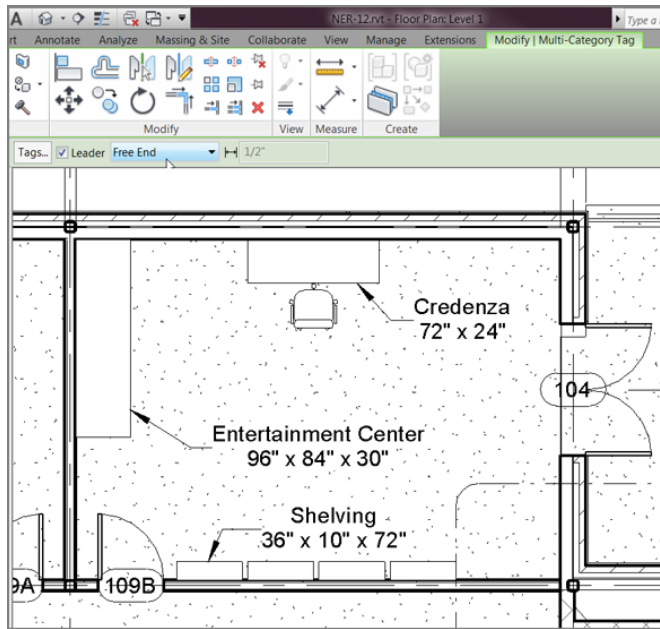

FIGURE 11.86: Adding the multi-category tag to the entertainment unit. Make sure you adjust the tag to show the information unobscured.
14. On the Options bar, select the Leader option, as shown in Figure 11.86.
15. Again, on the Options bar, select Free End (see Figure 11.86).
16. Hover your mouse over the furniture items shown in the room in Figure 11.86. The tag reports the information for any item over which you hover. Pick the entertainment unit to the left of the room, and then pick two points to the right of the unit.
21. Using the grips on the tag, move it out of the way, and adjust the leader so it looks like the one in Figure 11.86.
22. Add another tag to the credenza located on the north wall. Adjust this tag as well (see Figure 11.86).
23. Add one more tag to the shelving on the south wall of the room, and adjust the leader so it looks acceptable (again, see Figure 11.86).